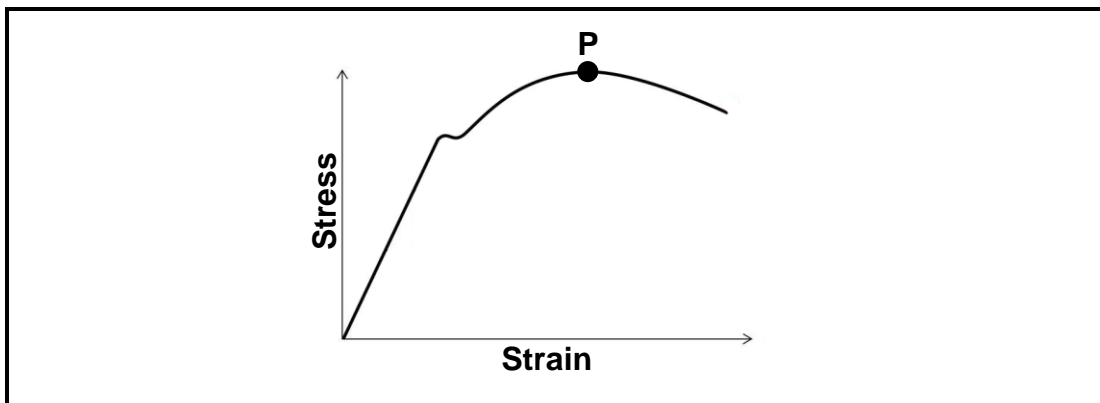

FIGURE 4.7
4.7 FIGURE 4.7 below shows the stress-strain graph obtained during a tensile test on mild steel. What is indicated by P in the graph?